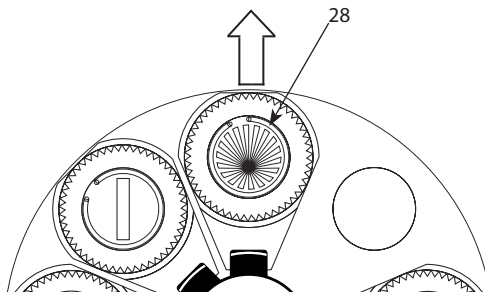

Fig. 6
2. Release the screws (16) and remove the upper part of the housing of the pan head (1).
3. Turn the gobo wheel as indicated in fig. 6 in such a way that the gobo to be replaced is on top.
4. Remove the retaining ring (28) on the gobo by means of a suitable tool and remove the gobo. Never release the screws on the gobo support; they keep the ball bearing together!
6. Put the gobo support back into the gobo wheel so that it is clamped under the retaining ring (28).